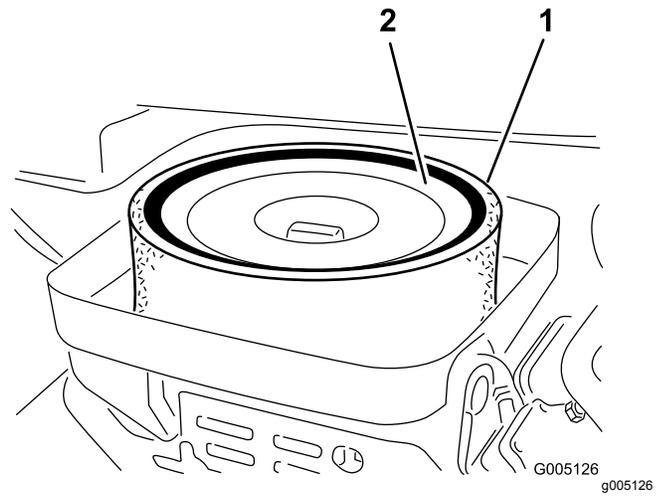

Figure 35
3. Remove the wing nut securing the elements to the air-cleaner body (Figure 35).
4. If the foam element is dirty, remove it from the paper element (Figure 35). Clean it thoroughly, as follows: